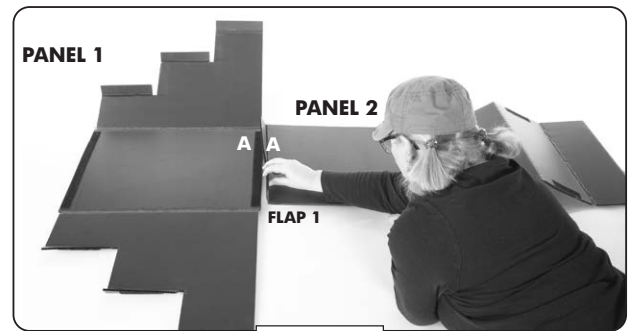

Figure 3
- 3** Starting with **PANEL 2**, fold FLAP 1 on edge A at the crease into the upright position so that it's free to bend more easily. **See Figure 3**.